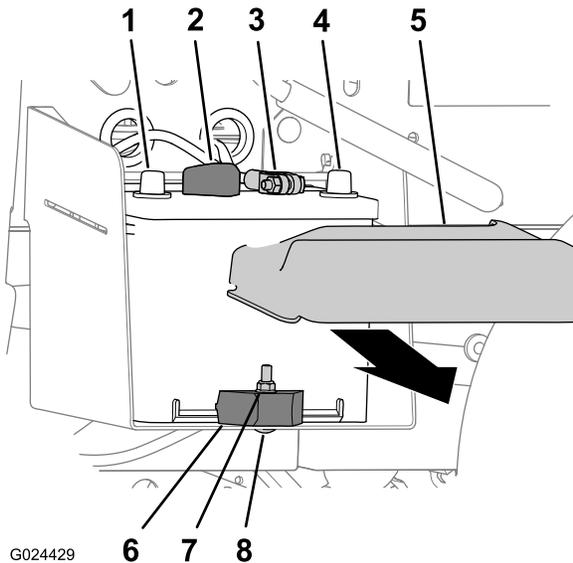

Figure 49
1. Squeeze the sides of the battery cover and remove the cover from the top of the battery (Figure 49).
2. Disconnect the negative battery cable from the terminal of the battery (Figure 49).
3. Disconnect the positive battery cable from the terminal of the battery (Figure 49).
2. Remove the locknut, carriage bolt, and battery clamp that secures the battery to the battery tray (Figure 49).
3. Remove the battery from the battery tray (Figure 49).
1. Align the battery to the battery tray of the machine (Figure 49).
Note: Ensure that the positive and negative posts of the battery are aligned as shown in Figure 49.
2. Secure the battery to the battery tray with the battery clamp, carriage bolt, and locknut (Figure 49).
1. Connect the positive battery cable to the terminal of the battery (Figure 49).
2. Connect the negative battery cable to the terminal of the battery (Figure 49).
3. Install the battery cover onto the top of the battery (Figure 49).